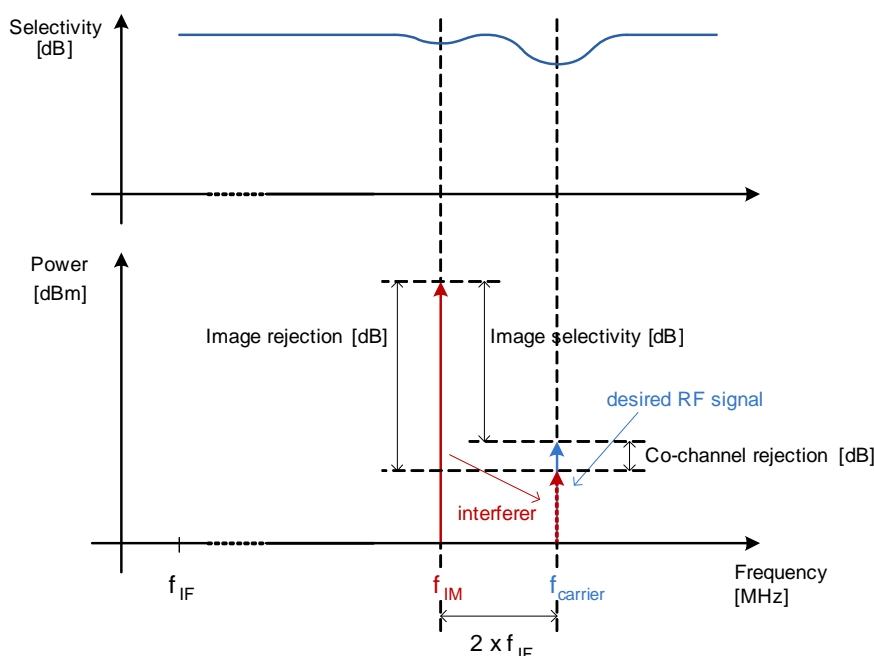

Figure 1. Image Rejection and Selectivity
In default mode, the Si446x product family utilizes a low-IF architecture, which means that the incoming RF signal is downconverted to a low, intermediate frequency* (IF); this is required for low-power signal processing in the digital domain. Although this topology has many advantages, such as overcoming problems related to dc offset and $1/f$ noise, it introduces the image issue that needs to be resolved. RF signals at the image frequency (IM) are capable of producing the same IF frequency as the desired input, thus resulting in decreased selectivity (see Figure 1). For the nominal crystal frequency of 30.0 MHz, the IM frequency of the chip is at $2 \times \text{IF}$ ($2 \times 468.75 \text{ kHz} = 937.5 \text{ kHz}$) below the actual RF frequency. As shown in Figure 1, image rejection is the ratio of the signal strength at the IM frequency to its counterpart at the carrier frequency (interferer). In order to receive the desired signal when the interferer is present, the desired signal must typically be 8–10 dB higher than the interferer (co-channel rejection). The ratio of the signal strength at the IM frequency to the desired signal is the image selectivity, and is thus typically 8–10 dB less than the image rejection.